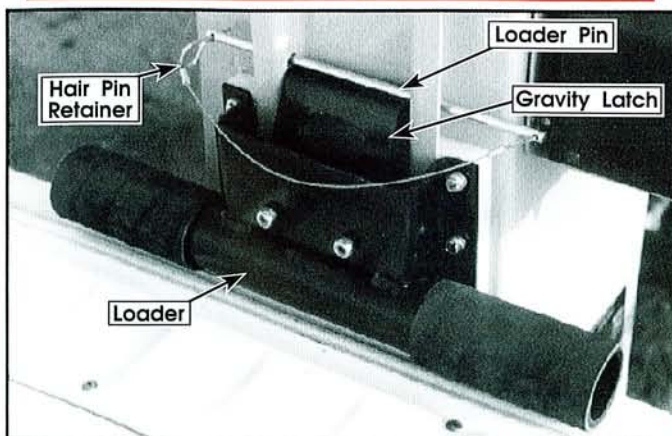

Figure 11: Compact Loader in load position
3. Release the gravity latch and slide the loader down until it comes into contact with the vehicle bed or tailgate (Figure 11). Then place the loader pin in the first available set of holes above the loader and secure with the hair pin retainer.